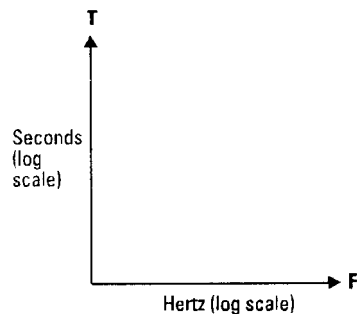

Figure 2. Time record length (T) vs. frequency span (F) axes
Any Agilent 89400 Series VSA measurement setup involves a choice of measurement span (F) and time record length (T). The values chosen for these parameters strongly influence measurement performance in areas such as resolution, speed, and accuracy—in short, they determine the analyzer's ability to provide the desired insights into the signal under test. Because of this, these two variables are the fundamental axes upon which the analyzer's operating modes will be portrayed (Figure 2).